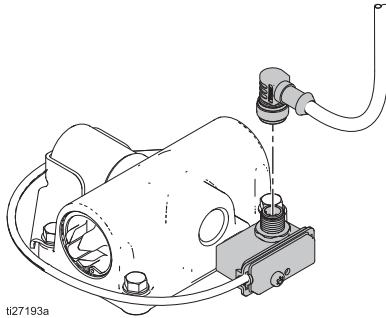

Fig. 2. Disconnect DataTrak
1. Unscrew cable from the reed switch assembly. See Fig. 2.